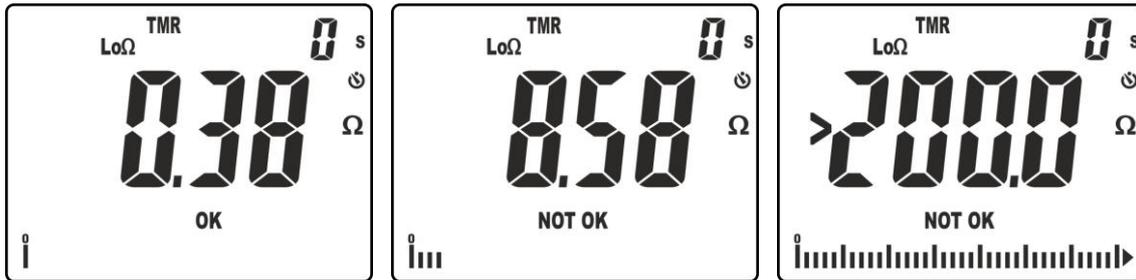

Fig. 31: Results of continuity test in TMR mode
10. In the screen in Fig. 31 – left side, a positive test result "OK" is shown (value lower than the set threshold and test current $>200\text{mA}$). In the screen in Fig. 31 – middle, a negative test result "NOT OK" is shown (value higher than the set threshold and test current $<200\text{mA}$). In the screen in Fig. 31 – right side, a negative test result "NOT OK" is shown, corresponding to the out-of-range condition (symbol " >200.0 ").